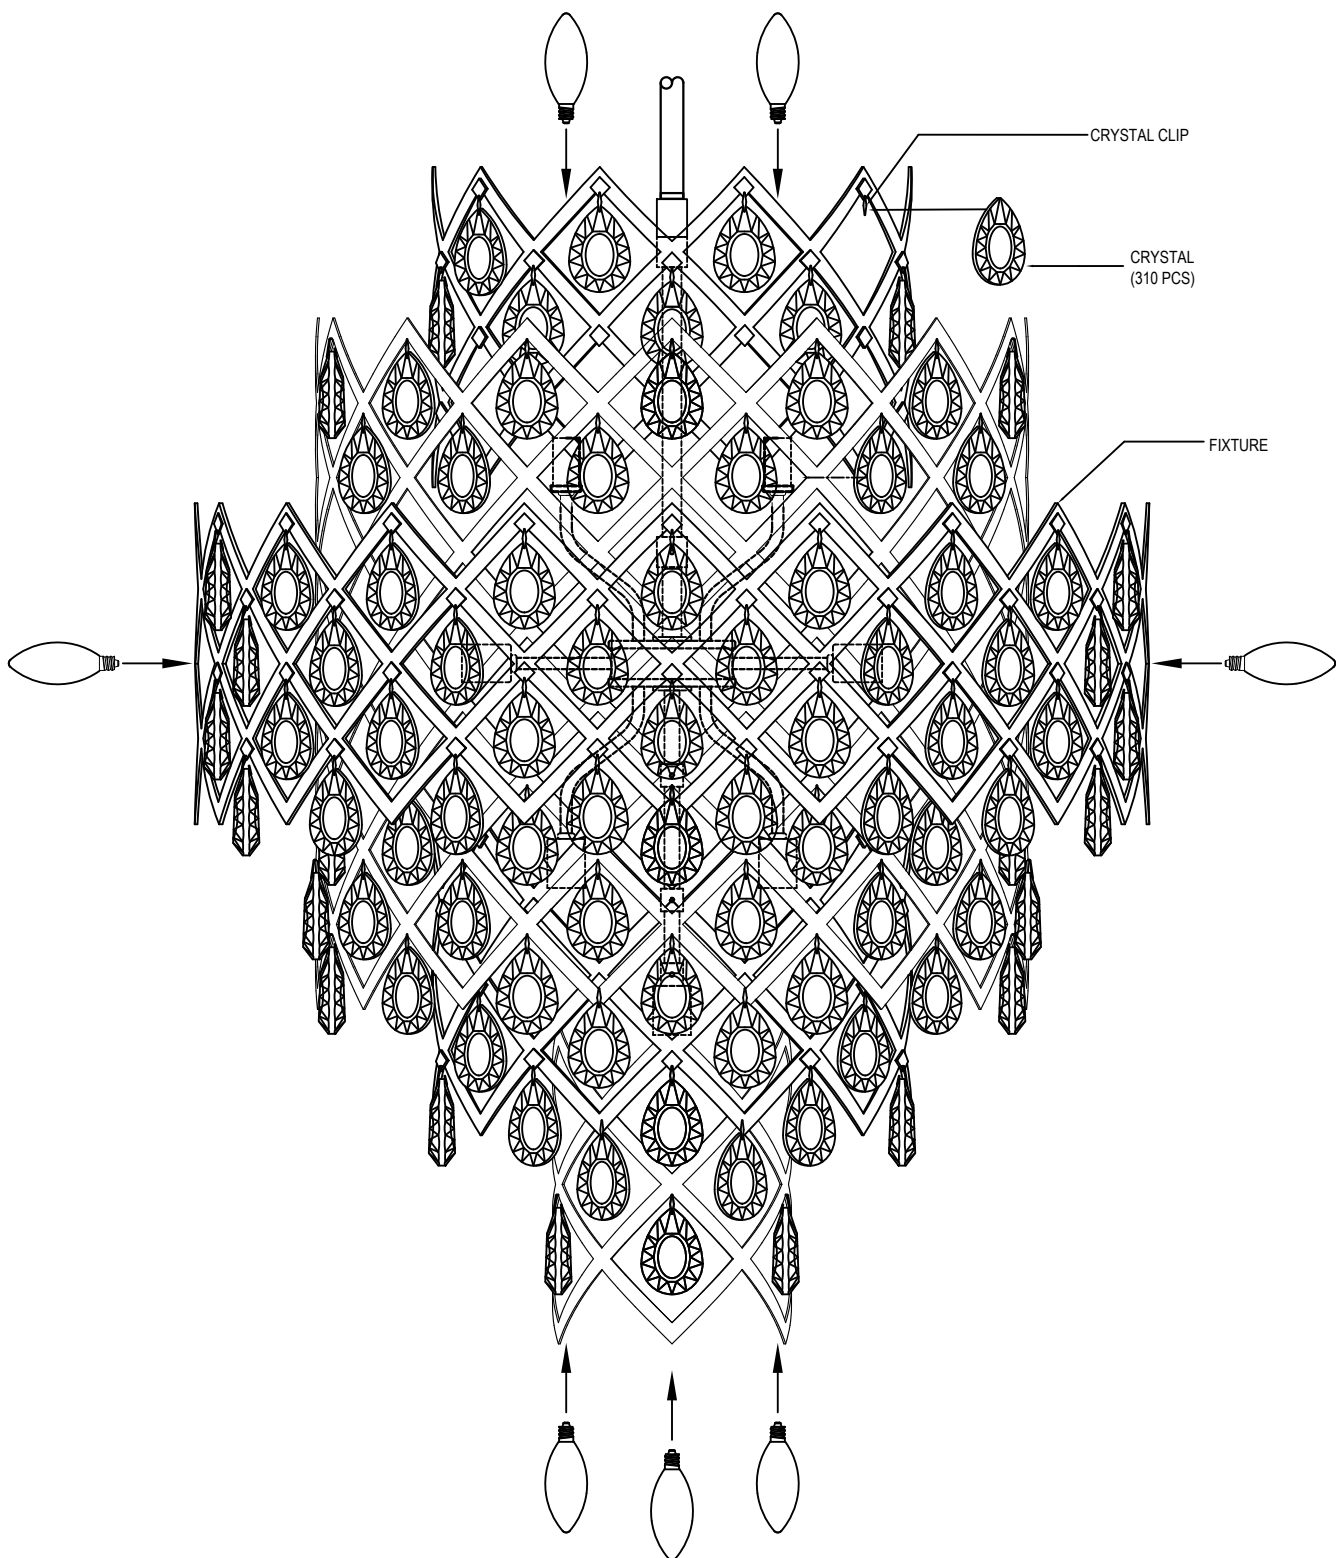

FIGURE-2
12. Hang the crystal following the crystal schedule as seen in figure-2.